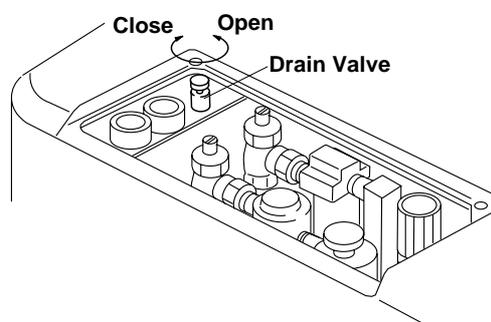

Fig.5-5 Drain Valve in the Utility Section
- (4) Drain Valve for Air Filter in Utility Section (**Fig.5-5**)